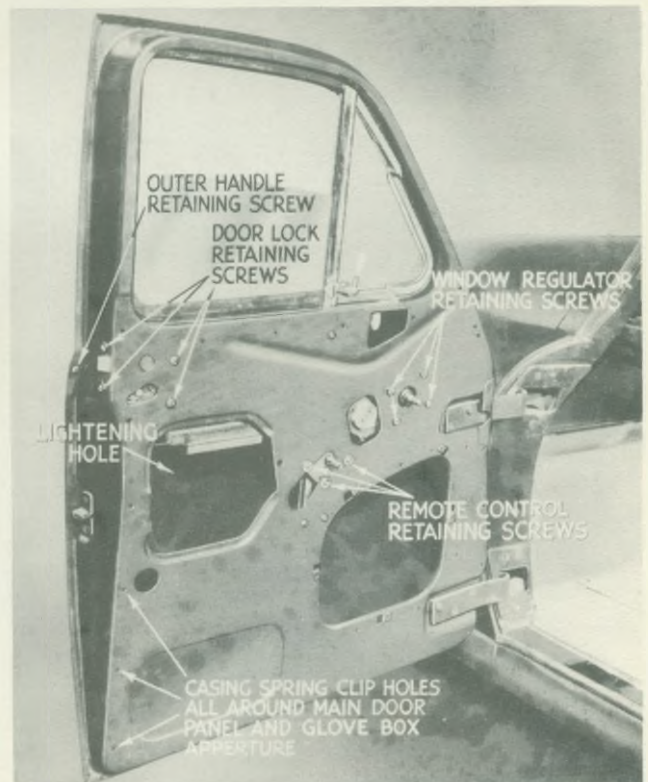

Fig. 9. Partially stripped front door
2. Detach window moulding after removal of securing screws. Remove arm rest and then door casing after removal of visible fixing screws and freeing the spring clips which fit into the metal door frame, see Fig. 9 for location of these holes. (With earlier Models, the door casings are fixed with spring clips only.)
3. Remove outside door handle and bolts securing window regulator, and withdraw regulator through inner door panel lightening hole. (See Fig. 9.)